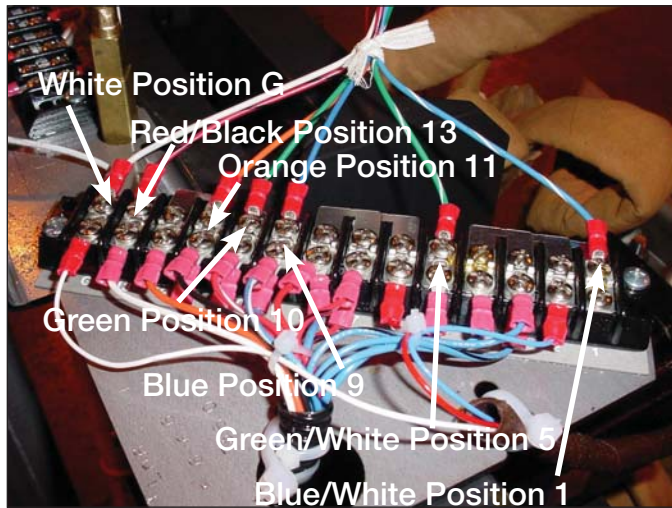

Figure 5.
- Using a Phillips head screwdriver, loosen and remove the TCB terminal board leads from the 14 position terminal board located on the top right of the QD3 tap changer. See Figure 5. The lead color and termination points are as follows: